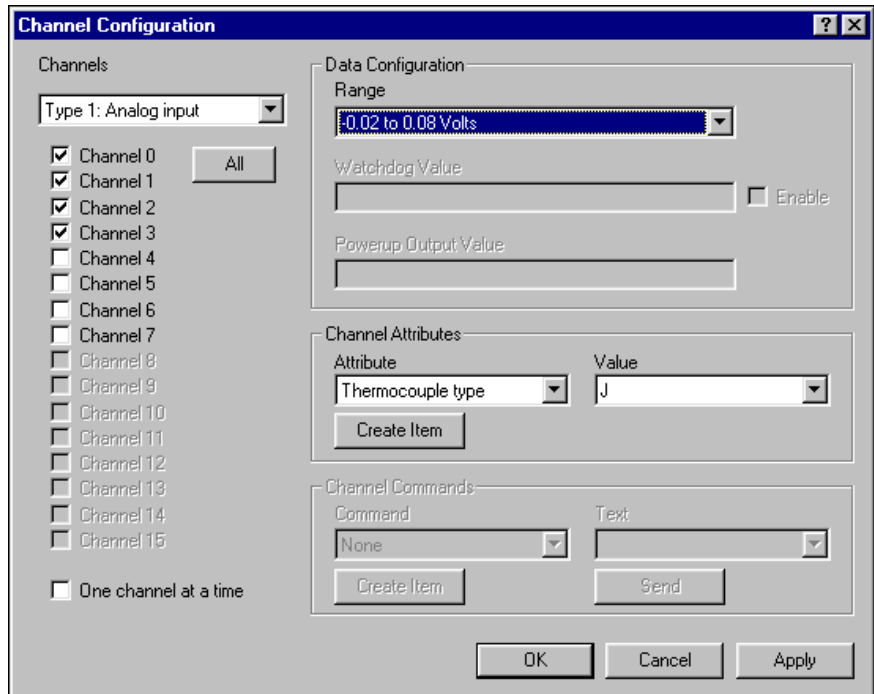

Figure 3-7. Channel Configuration Dialog Box
- b. Click on the **Channel Configuration** button to bring up the **Channel Configuration** dialog box, shown in Figure 3-7. In this example, an FP-TC-120 thermocouple module is selected.